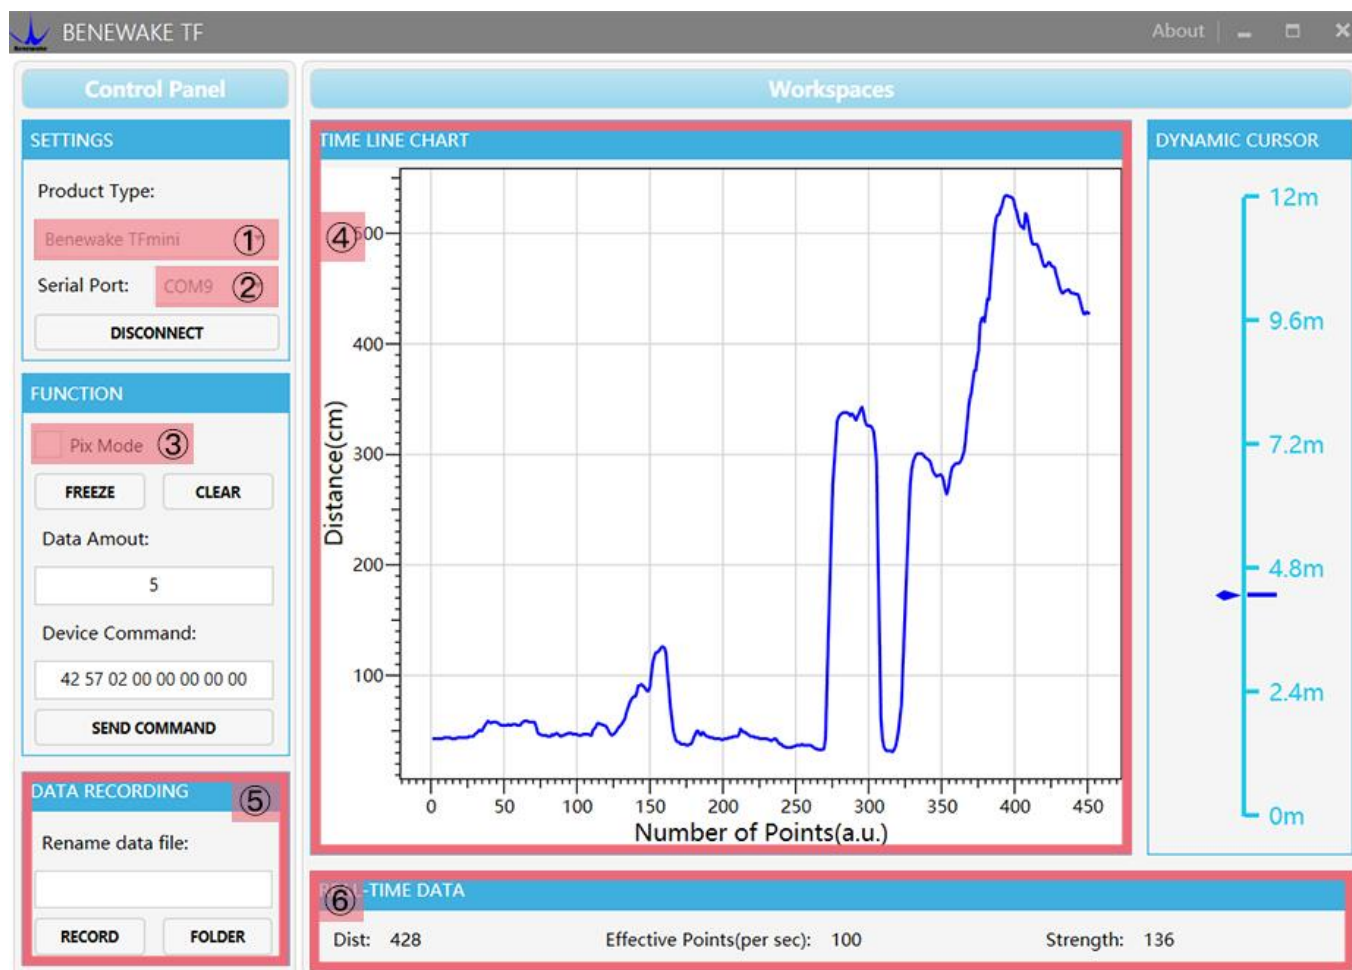

Figure 7 PC software Interface and Display
③ Connection to the PC software and data output
Open the PC software and select “①Benewake TFmini” and select automatically recognized occupied serial port (here it is “②COM9”), as shown in Figure 7